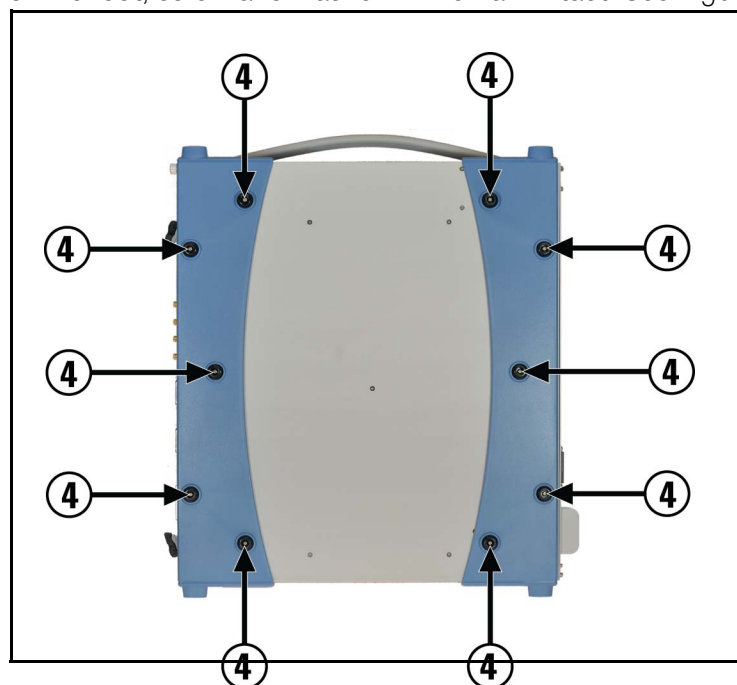

Figure 3 . Removing the Chassis Bumpers
- 4** Carefully turn the chassis onto its top. Remove the four plastic feet from the bottom of each bumper. Each foot is attached to the chassis through the bumper with a small #2 Phillips screw retained at the back of the foot with a plastic washer. Loosen each screw just enough to disengage it from the chassis. The foot, screw and washer will remain intact. See Figure 3.